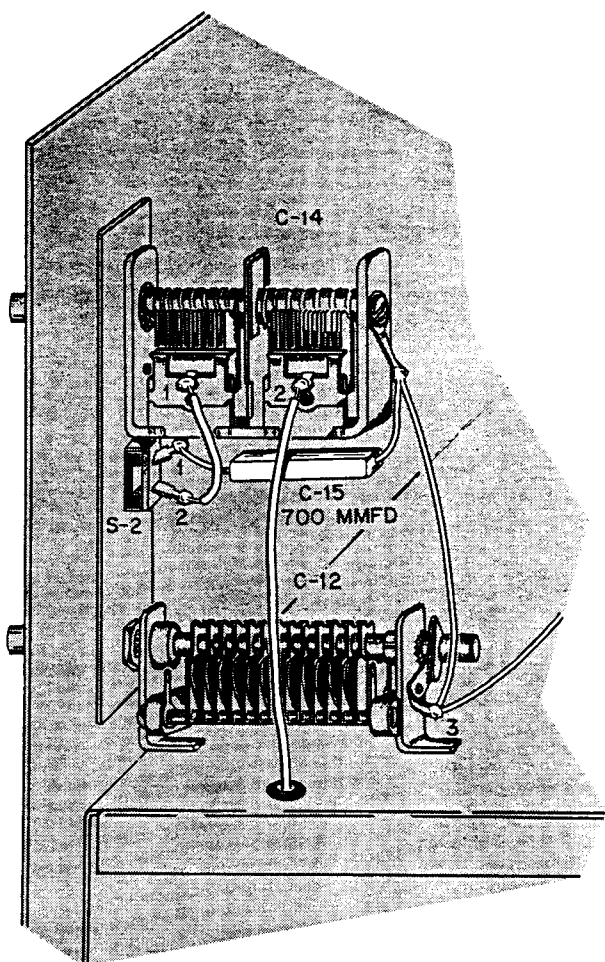

FIGURE 11. HOW TO WIRE C-15
- ☐ As shown in Figure 11, (see next page) solder one lead of C-15, a 700 MMFD mica capacitor, to terminal 1 of S-2. Solder the other lead of C-15 to the solder lug on the back of C-14.
- ☐ As shown in Figure 11, solder one end of a red wire to terminal 2 of S-2. Solder the other end of this wire to terminal 1 on C-14.